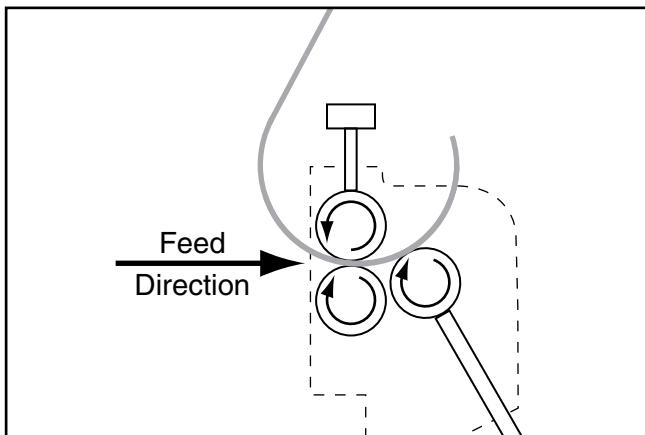

Figure 23. Curving workpiece by feeding opposite end first.
6. Rotate workpiece 180°, insert curved end into rollers, then feed it through machine, as illustrated in **Figure 23**.